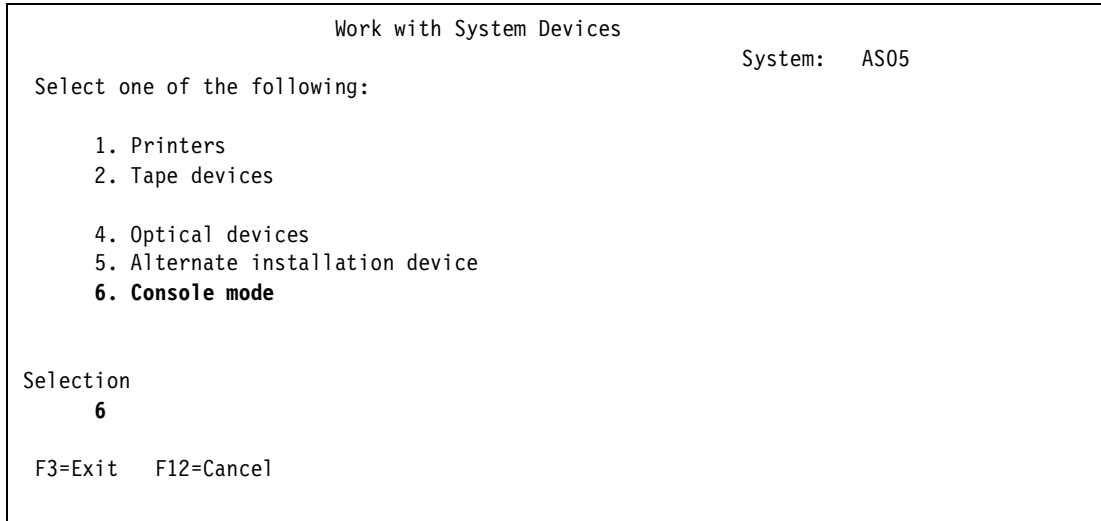

Figure 7-16 Work with System Devices screen
3. The Work with System Devices screen appears as shown as in Figure 7-16. Select option 6 (Console mode).